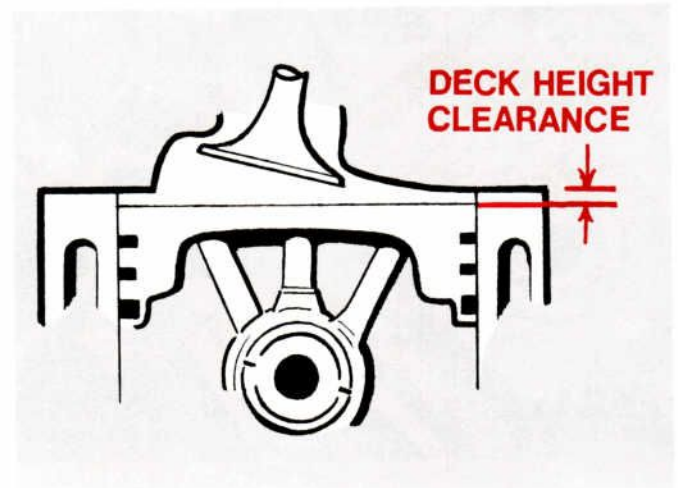

Figure 4 – Measuring Deck Height Clearance
❸ Install special 12.5:1 high compression "eyebrow" pistons (Ford Part No. C8AX-6110-A with Dyke ring), stock cylinder heads (Ford Part No. C5AZ-6049-C) and 0.015" thick steel shim head gaskets (Ford Part No. C3AZ-6051-B) to obtain a compression ratio of 12.5:1. Piston-to-deck height (Fig. 4) should be 0.025" with a 90 cc. cylinder head volume. This combination is acceptable for the street and strip.